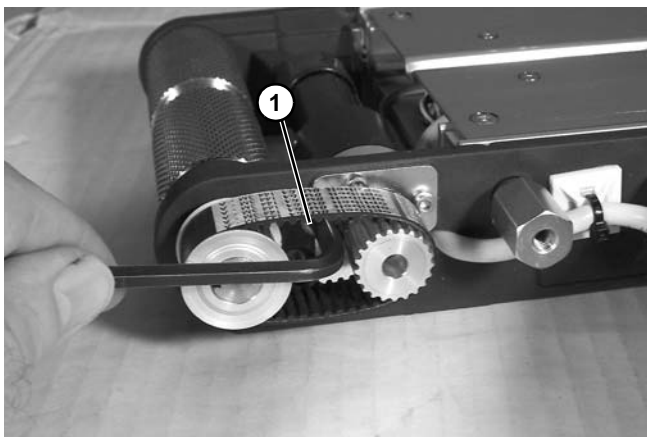

Figure 51
5. Loosen timing belt tension cam (Figure 51, item 1).